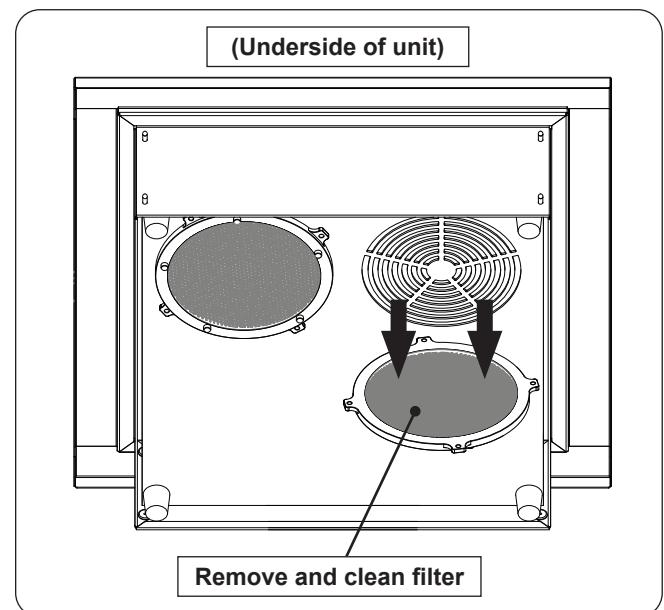

Fig. 34-1 Clean Filters
- Remove filter: While holding the unit, locate the filters (underneath the unit) and pull them off. See Fig. 34-1. The filters clip onto the outmost vent rings via plastic clips that allow for easy removal and installation.